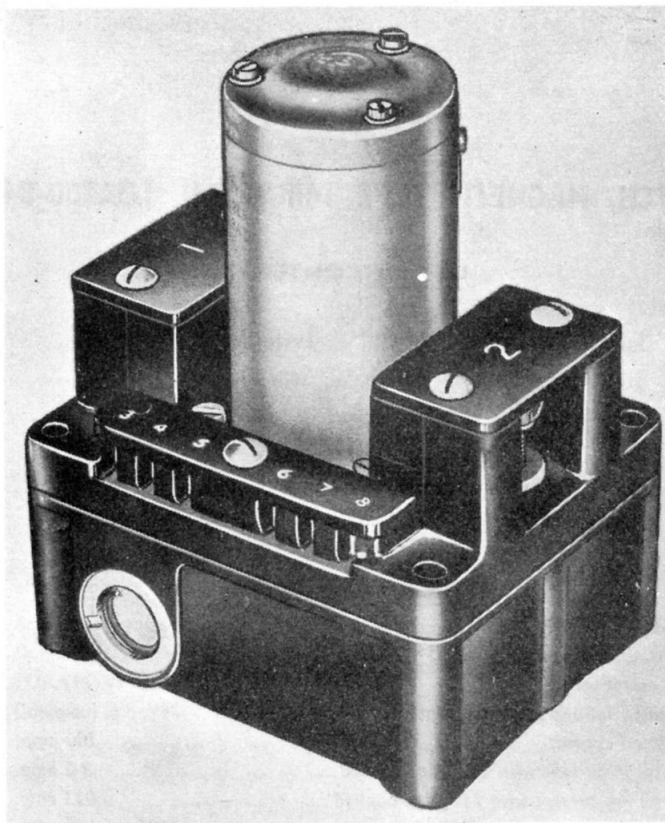

Fig. 1. General view of switch
1. The Type 14B switch (*fig. 1*) is a single-pole, single-throw type. It is designed for the remote control of circuits carrying up to 200 amp. at 24V, d.c. (nominal). It can be operated from a distant point by means of a switch of the non-shorting type.